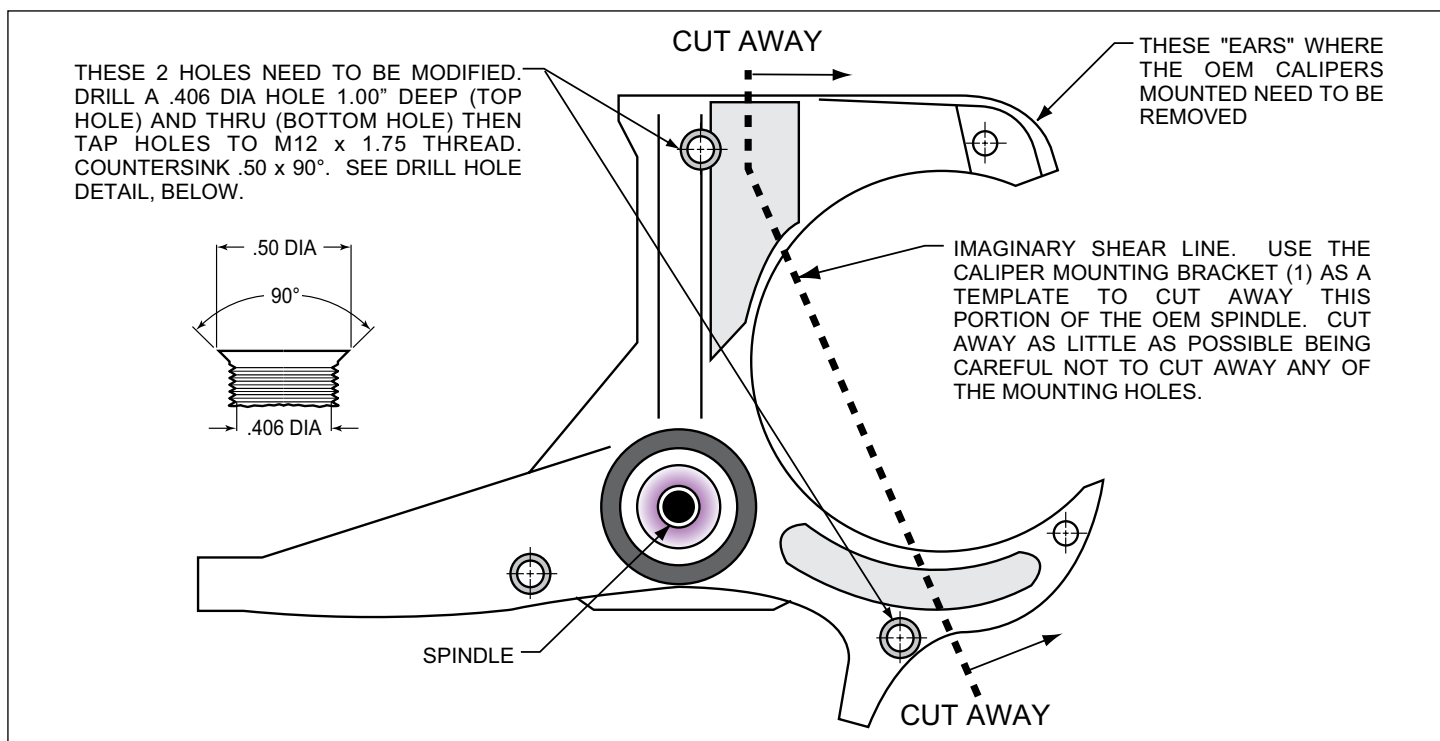

Figure 1. Steering Arm / Spindle Modifications
NOTE: These modifications should be performed by a qualified machinist and completed before assembly of the Wilwood disc brake kit begins. Refer to Figure 1 as necessary (numbers in parenthesis refer to the parts list). Only one view of the steering arm/spindle is shown, but the modifications need to be performed on both steering arm/spindles.
The two OEM holes that will be used to mount the caliper mounting bracket (1) need to be modified. Drill a .406 diameter hole, 1.00” deep (top hole), and thru (bottom hole), Figure 1, then tap holes to M12 x 1.75 thread. Countersink the holes to .50 x 90°. The “ears” that protrude to form a “C” shape need to be removed to facilitate the installation of the Wilwood kit. Using the bracket as a template, mark two cut marks on the steering arm. Remove as little as necessary from the “C” shape, being careful not to cut away any of the mounting holes required to bolt on the bracket.
NOTE: Numbers in parenthesis refer to the parts list and Figure 1 on the preceding pages.
- Insert the dynamic mount wear clips (23) into the slots in the hat (21), Photo 6. Orient the rotor (9) as shown in Figure 1 and Photo 7, with the flush side of mount lugs facing the hat. Secure the rotor to the hat using the snap ring (22) by simultaneously pushing down on the rotor and installing the ring into the groove in the hat, as shown in Photo 8. Carefully inspect snap ring to ensure complete engagement in the groove.